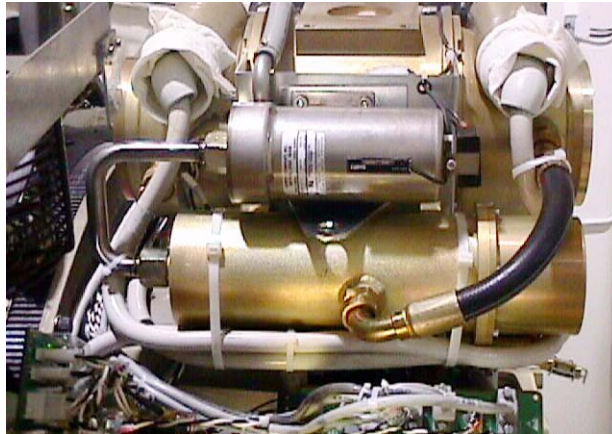

Figure 39 - HV Cables Properly Routed and Secured
- 12.) Be sure to route the HV cable as shown in Figure 39.
- 16.) Secure HV Cables using Large Ty-Raps, as shown in Figure 39.
- 20.) Install the right gantry front cover bracket. Reference Figure 39, on page 38.